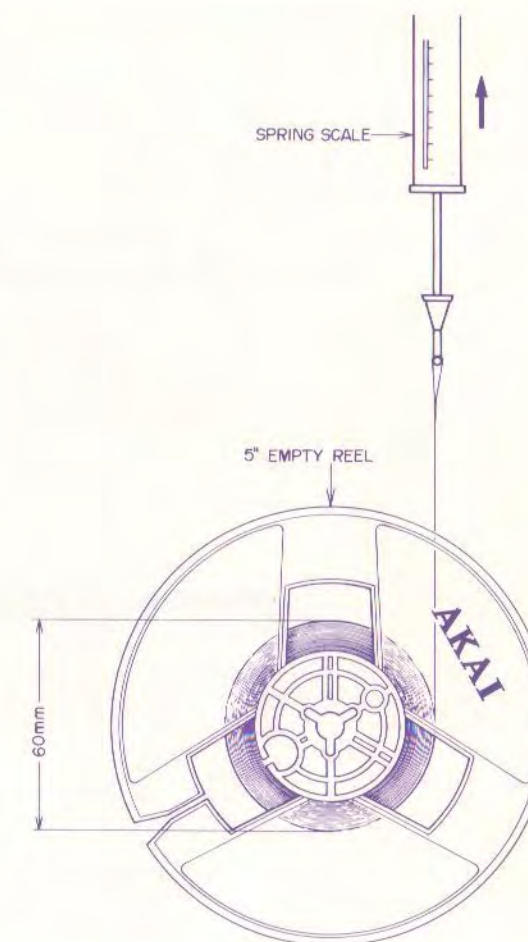

Fig. 3
- As shown in Fig. 3, use a 60 mm diameter tape wound on a 5" reel and measure brake tension with a spring scale. Ideal brake tension is 350 gr.